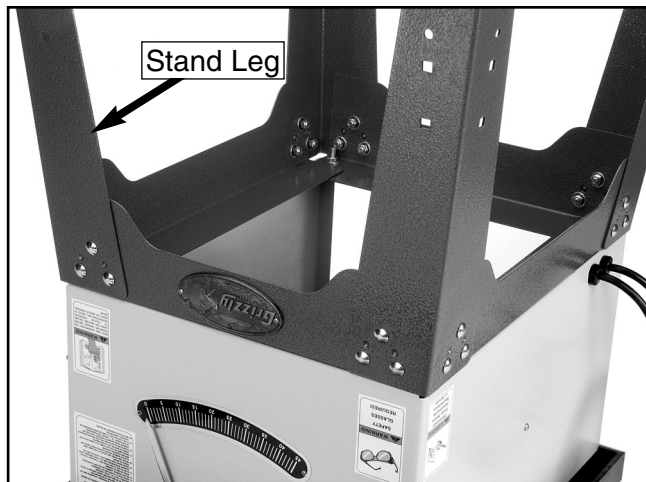

Figure 13. Stand leg installation.
5. Secure each stand leg to the outside of the "L" side supports with 24 carriage bolts, 24 flat washers, 24 lock washers, and 24 hex nuts (**Figure 13**).